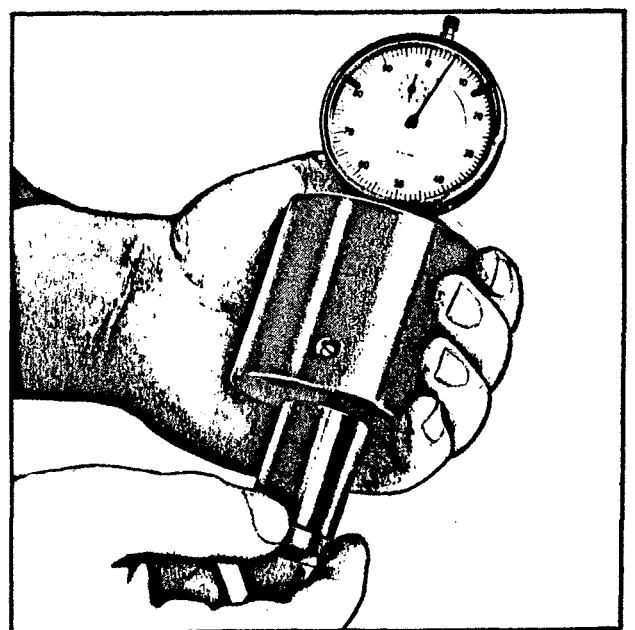

Fig. 22 - Zero-resetting the Dial Gauge
- Zero-reset the dial gauge of fixture 8015378 (fig. 22) by proceeding as follows: rest the gauge sleeve against the fixture body and align the pointer with mark "0".